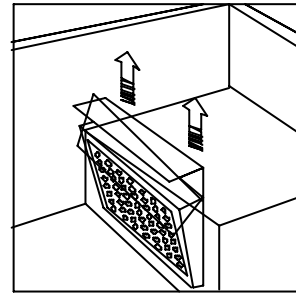
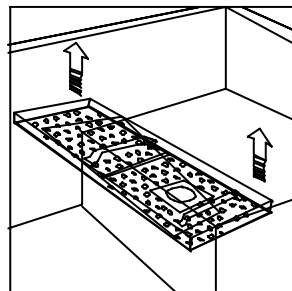

Fig.12
Fig. 13
- When the tub is empty, remove the curtains and the filters to clean them appropriately (Fig. 12 and Fig. 13).